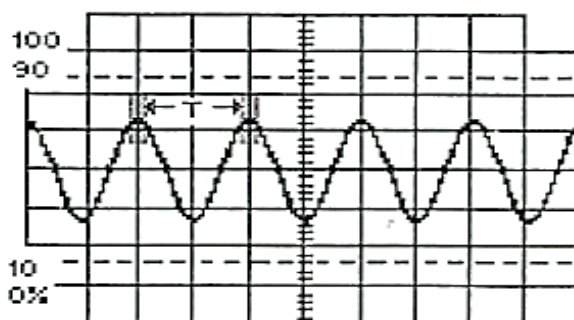

Figure 5-24.
17. With oscilloscope channel 2 set to 200 mV/DIV and the sweep set to 0.1 ms/DIV, measure the period (T) between the peaks of the signal on channel 2, as shown in Figure 5-24.